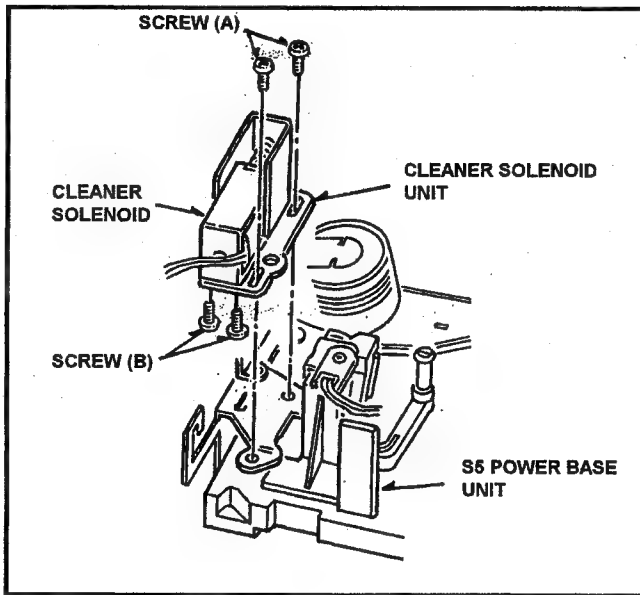

Fig. 6-15-1 Removal of Cleaner Solenoid
4. Unscrew the 2 screws (A) and remove the Cleaner Solenoid Unit as shown in Fig. 6-15-1.
5. Unscrew the 2 screws (B) and remove the Cleaner Solenoid as shown in Fig. 6-15-1.